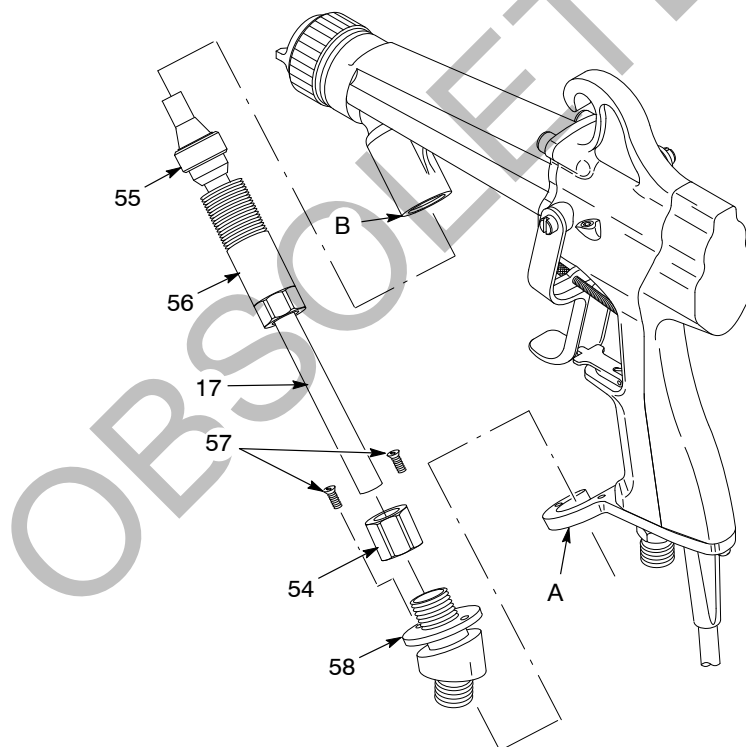

Figure 7-12 Fluid Tube Replacement
3. See Figure 7-12. Remove the two screws (57) that attach the fluid tube elbow (58) to the cable bracket (A) and remove the fluid tube from the bracket.
4. Loosen the tube retaining nut (56), which is located at the extension fluid inlet boss (B), and unscrew it completely.
5. Pull the tube (17) out of the spray gun extension.
6. Loosen the ferrule nut (54) and remove the fluid tube from the elbow.